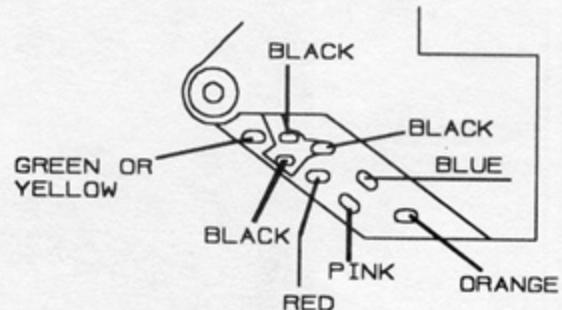

FIG. 23 POWER-TR FPC, BOTTOM RELEASE END
17. unsolder wires from power-tr FPC, bottom of camera, Fig. 23